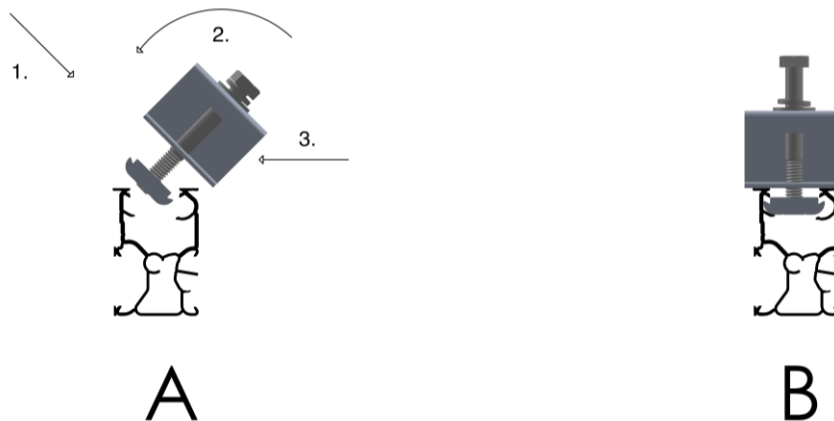

Figure 3 - Inserting K-Nut into Top Channel (End-Clamp shown)
If attaching a component to the top channel of the rail such as an End or Mid Clamp follow the steps shown in Figure 3
3. Drop into place. The inserted component should easily slide back and forth in the channel see Figure 3 B